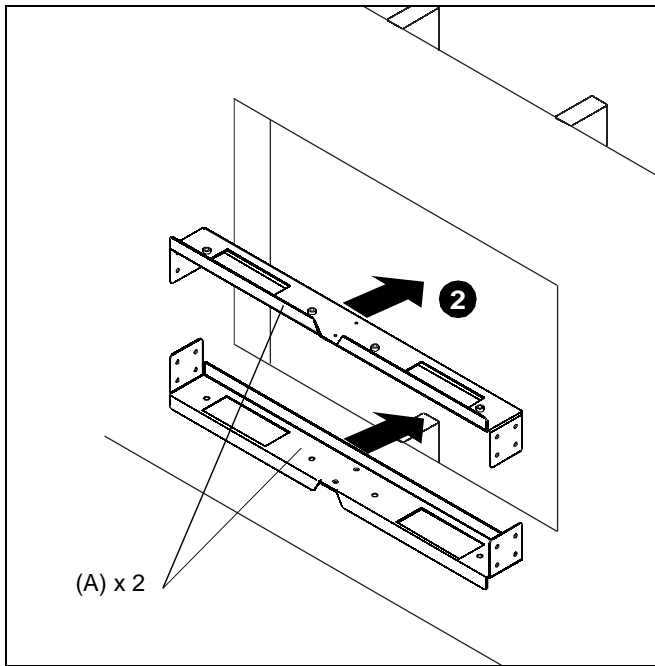

Figure 3
2. Orient brackets (A) as shown in figure below. (See Figure 3)
3. Raise and lower brackets (A) until brackets rest against center stud. (See Figure 3)